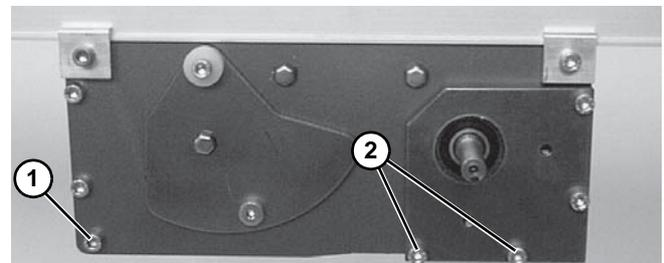

Figure 53
- Tighten corner screws (**Figure 53, item 1**) on each side of the drive module to 9 Nm.
- Re-install tension door screws (**Figure 53, item 2**) on each side of the module. Tighten screws to 6.8 Nm.
*With vertically mounted gearmotors, tension door screws (**Figure 53, item 2**) are installed on one side when the gearmotor mounting package is installed.*